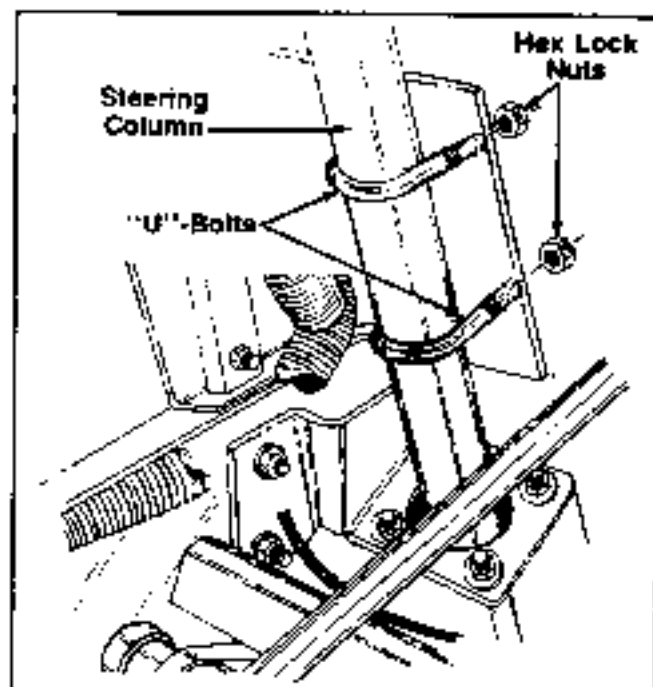

FIGURE 11.
10. Loosen the two "U"-bolts, holding the steering column. Loosen the four hex lock nuts as much as possible. Do not remove nuts. See figure 11.
- E. Now tighten four lock nuts on two "U"-bolts to secure the valve plate assembly to the steering column (left loose in disassembly section, step 10, figure 11).